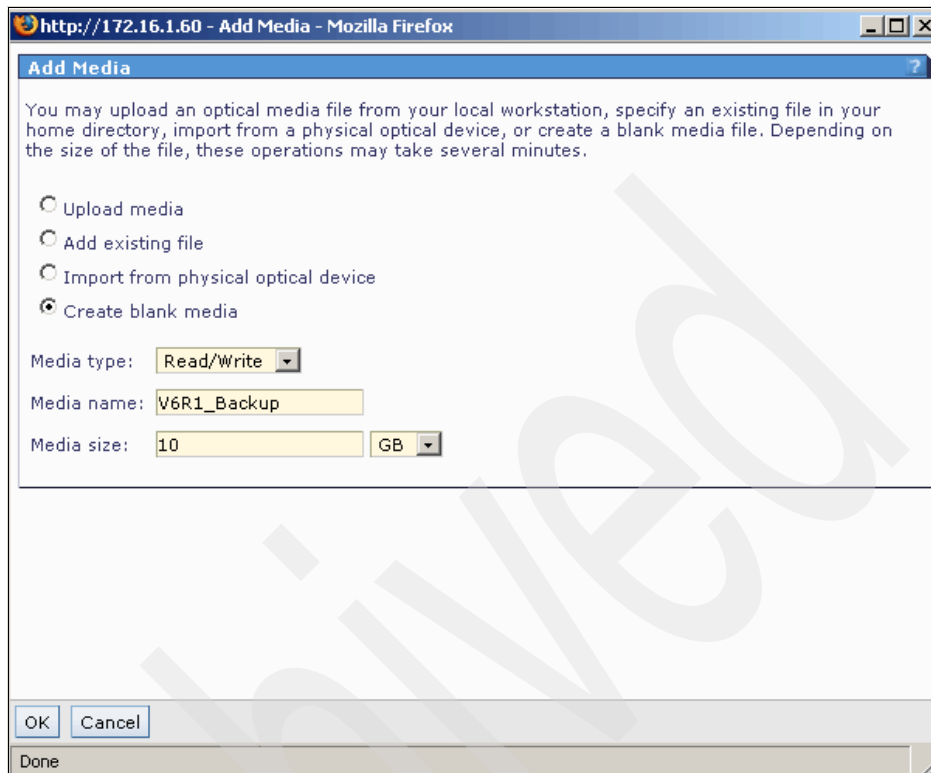

Figure 7-70 IVM Create blank media
6. To add a new virtual optical device to the media library, select **Add Media** in the Virtual Optical Media section. The window, shown in Figure 7-70 on page 311, opens.